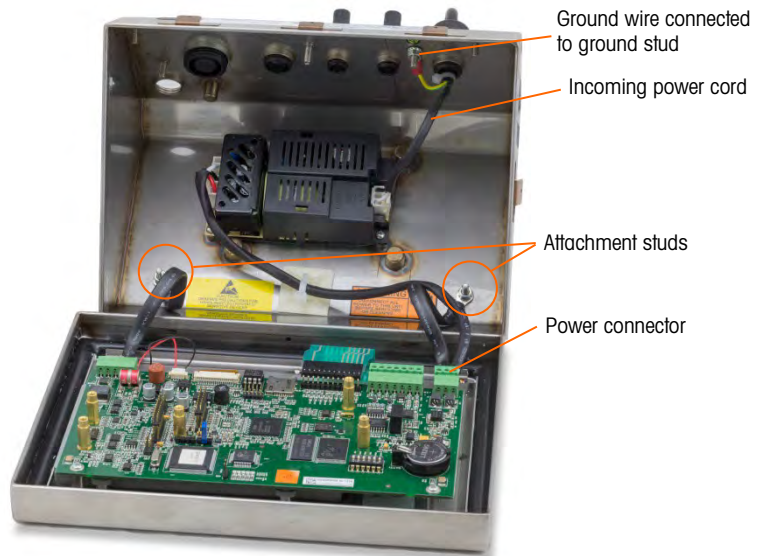

Figure 2-10: Preparing to Detach Front Panel
1. Open the enclosure as detailed in the Opening the Enclosure section. For steps 3 to 5, refer to Figure 2-10.